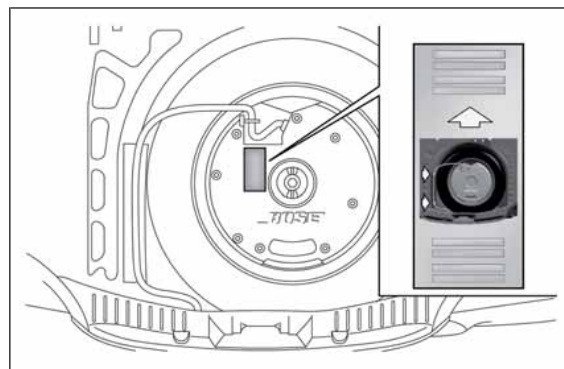

fig. 123
- reposition the container (with the arrow pointing forwards) in its housing and place the subwoofer on top of it, taking care to arrange it according to the indications on the container (fig. 123) so that the word "BOSE" is read in the correct position;